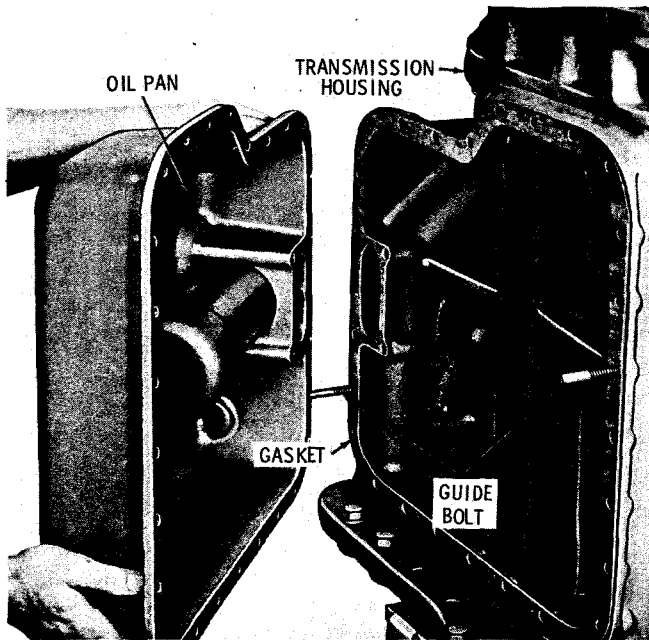

Fig. 7-94. Installing oil pan
(3) Install headless guide bolts into the bottom of the transmission housing (fig. 7-94). Install the transmission oil pan gasket onto the transmission housing. Install the transmission oil pan onto the transmission housing. Secure the oil pan with four evenly spaced 3/8-16 x 1 1/8-inch bolts and lockwashers. Remove the headless